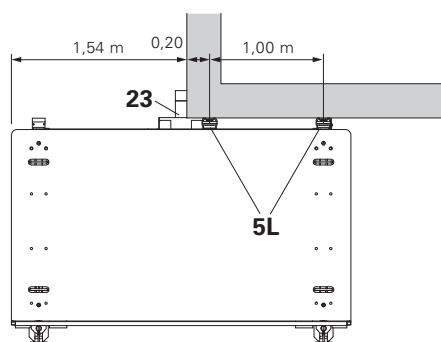

Fig. A4.04
- Mounting Heads (5) in position (5L). (Fig. A4.04)